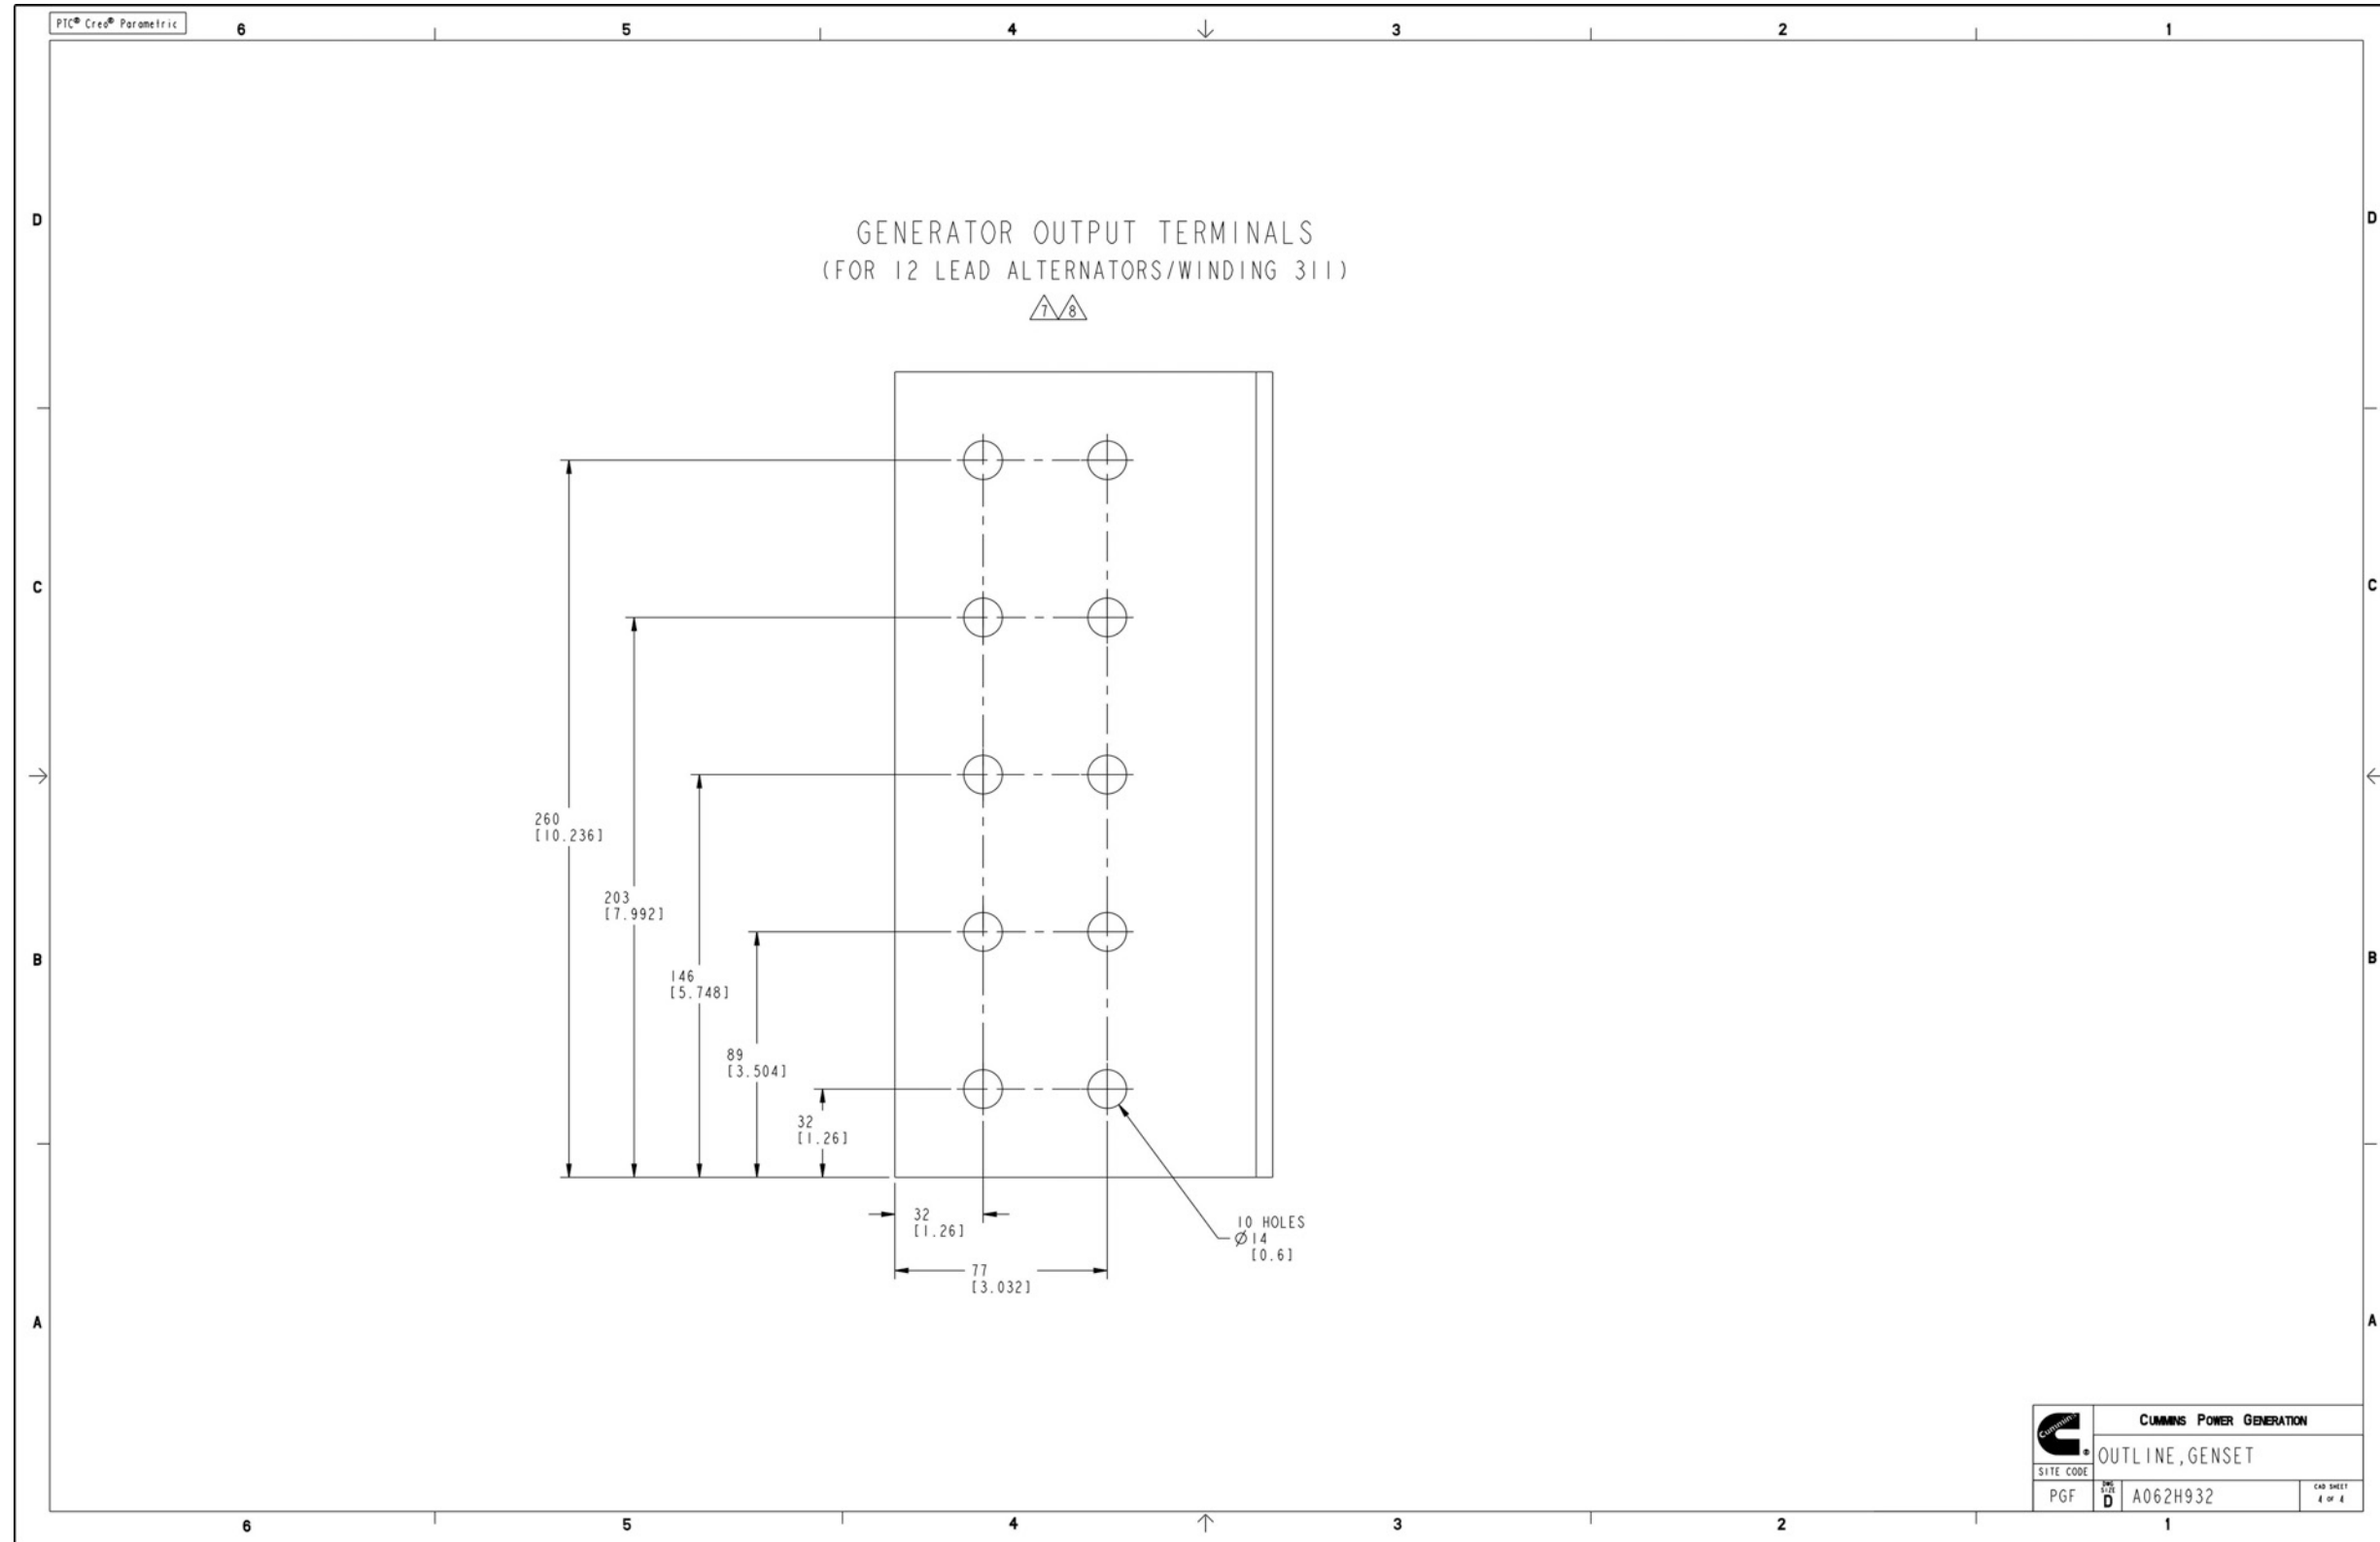

FIGURE 72. GENERATOR SET OUTLINE DRAWING (SET MOUNTED RADIATOR) (SHEET 4)
- Figure 72. Generator Set Outline Drawing (Set Mounted Radiator) (Sheet 4) 138